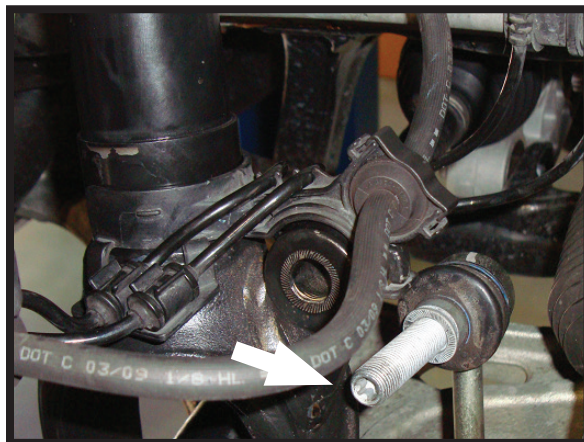

FIGURE 1
5. DISCONNECT THE SWAY BAR END LINKAGE FROM THE SHOCK. (FIGURE 1)